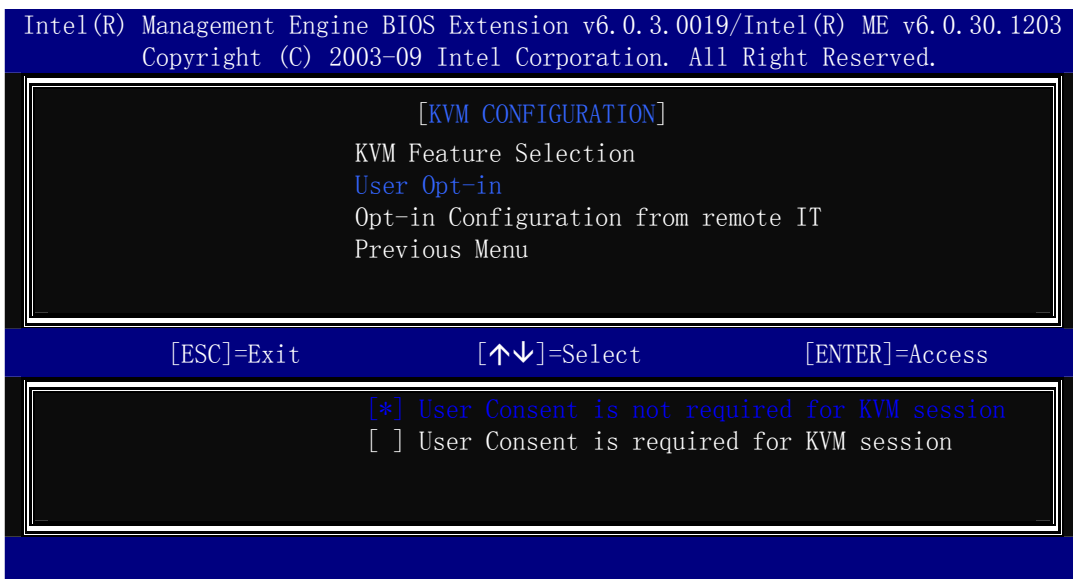

Figure A-7: KVM User Opt-in
Step 8: Two options are shown as in **Figure A-7**. Choose **User Consent is not required for KVM session** which means no password is required for using iAMT function. Then press **Enter**.